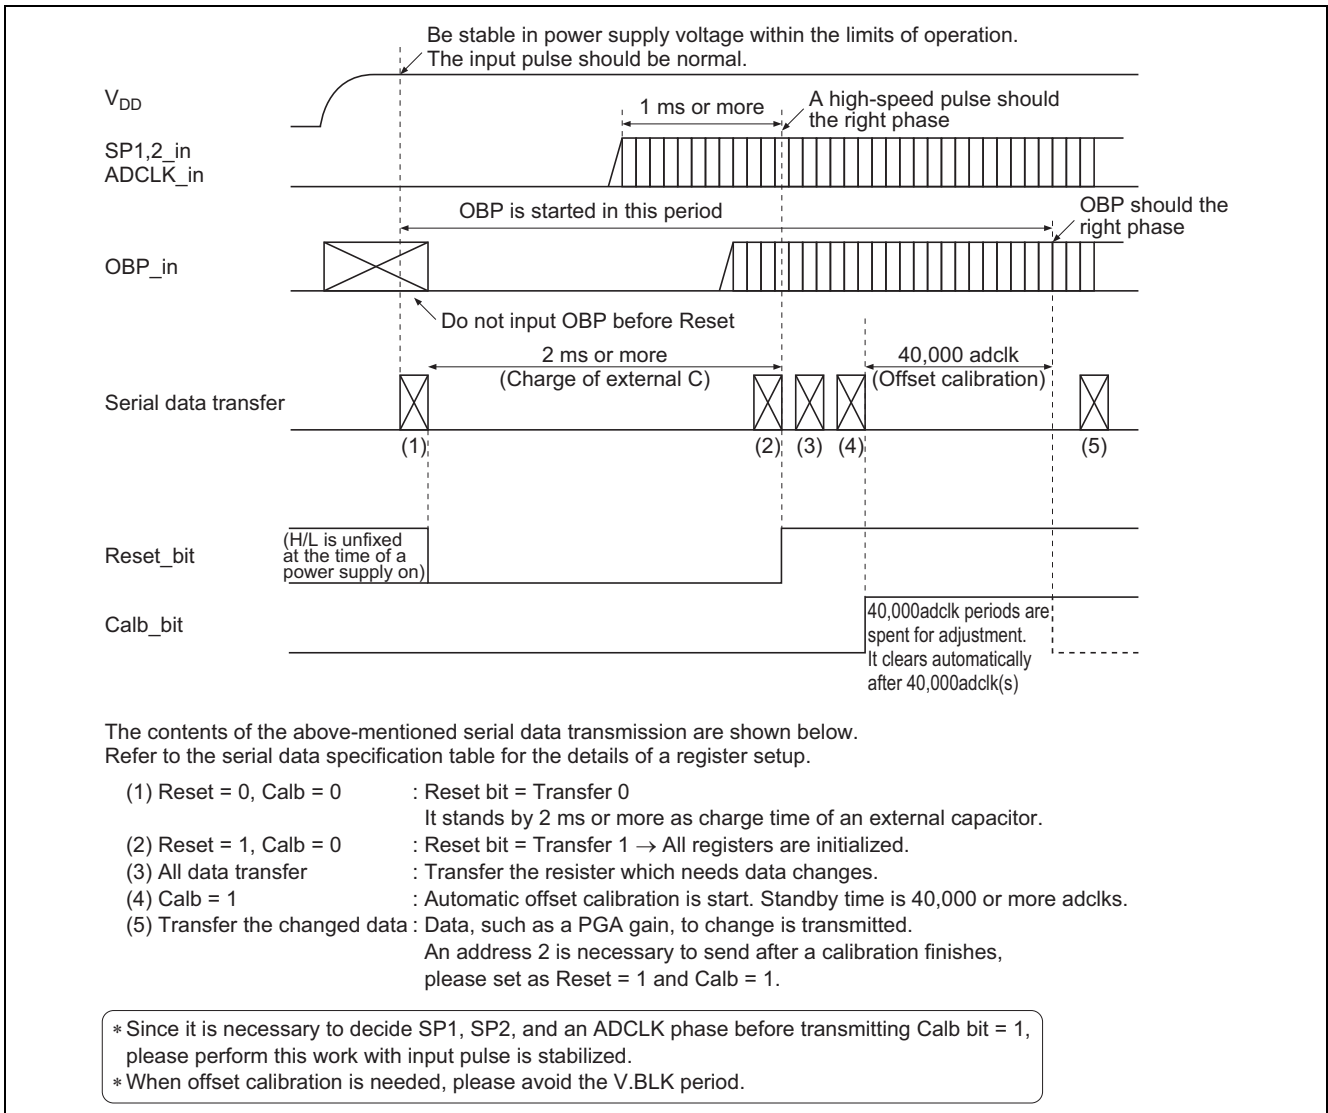

Figure 6 Operation Sequence of at Power ON
When returning is necessary, please start up from an offset calibration {(3) of figure 6}.